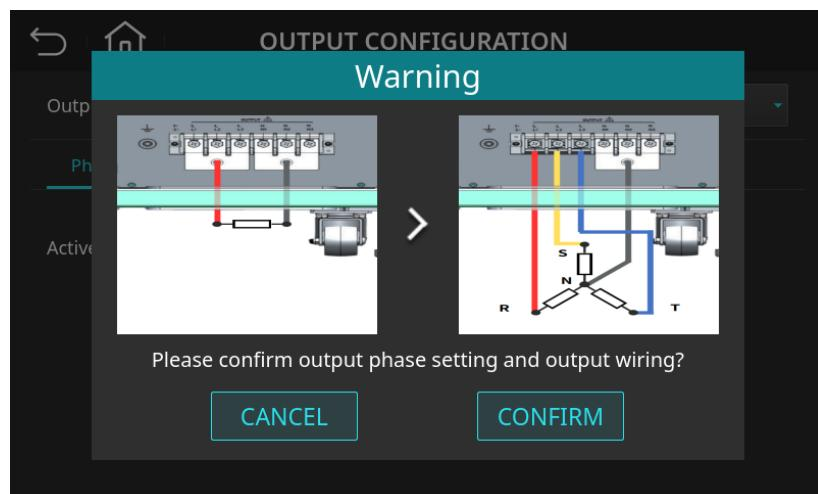

Figure 4-22: Phase Mode Switching Warning Page (Switching from Single Phase to Three Phase)
3. After confirming the output wiring is in three-phase mode, press the “CONFIRM” button, as shown in Figure 4-22.